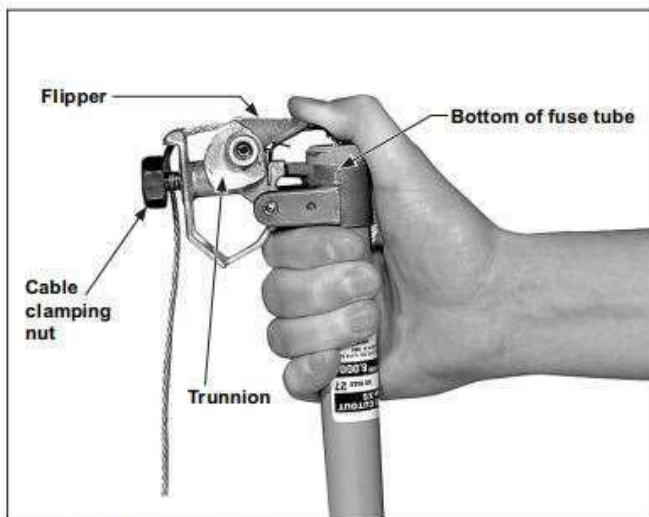

Figure 2a. Flipper fully pivoted.
STEP 3 Replace the fuse-tube cap on the fuse-tube upper ferrule and tighten the cap securely using a wrench. Loosen the cable clamping nut on the trunnion. See Figure 2a.
STEP 4 Rotate the flipper fully about its pivot until it reaches its stop (firm resistance is felt). See Figure 2a.